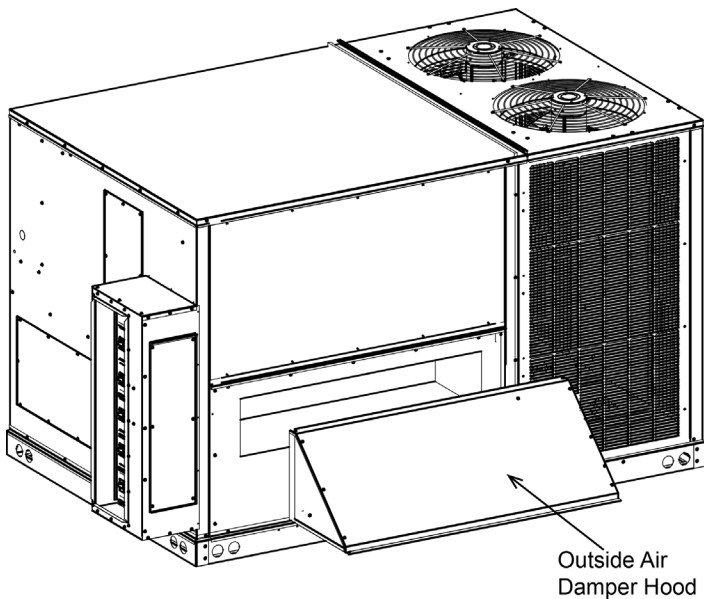

FIGURE 13 - MEDIUM DAMPER HOOD
6. Fasten the fully assembled outside air damper hood to outside air damper assembly using provided screws (see Figure 13).